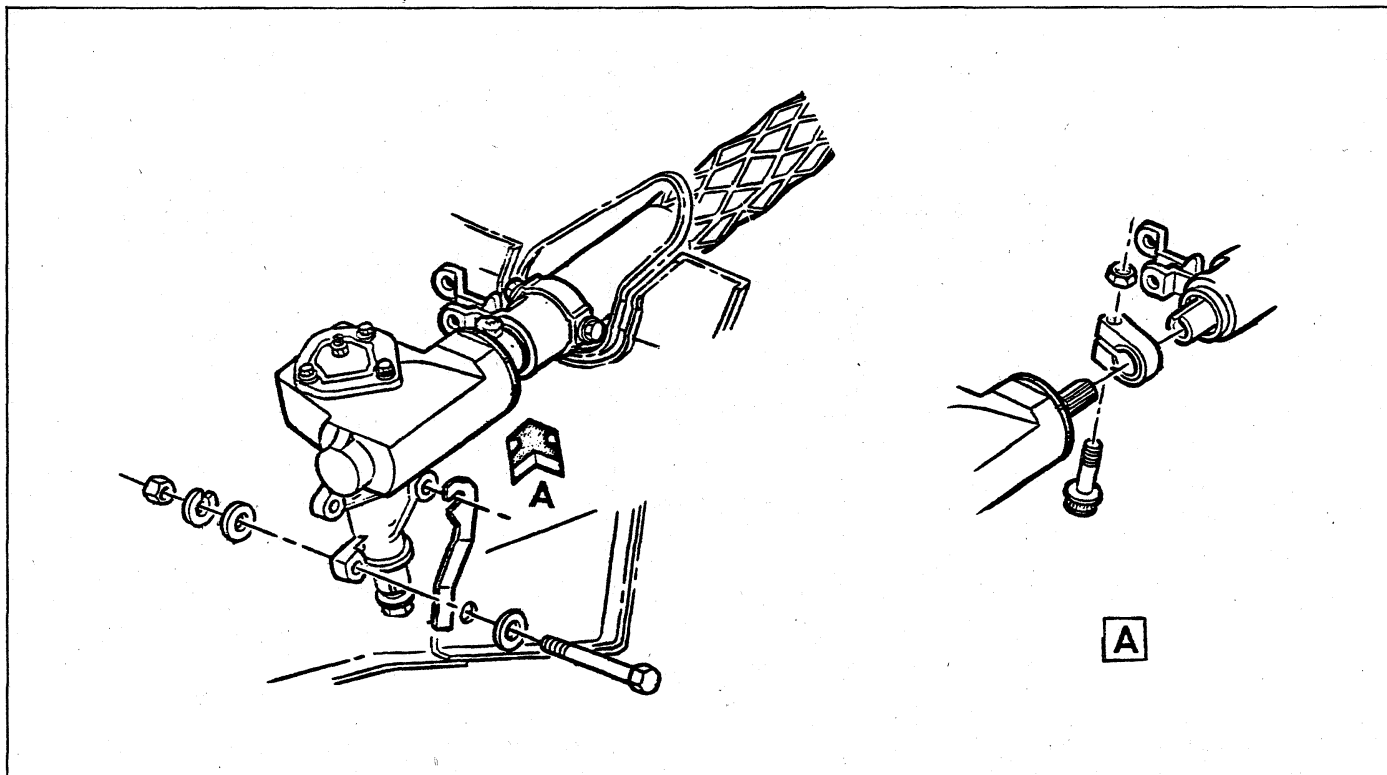

Fig. 12—Steering Coupling
STEERING COUPLING (Fig. 12)
1. Remove nuts and washers securing steering coupling to flanged end of steering column (fig. 12).
2. Remove coupling clamp bolt (fig. 12) and slightly spread coupling clamp.
2. Slide steering coupling into correct installed position and install clamp bolt (fig. 12).
STEERING GEAR—CHEVROLET, CHEVELLE, CAMARO, AND CORVETTE (Fig. 12)